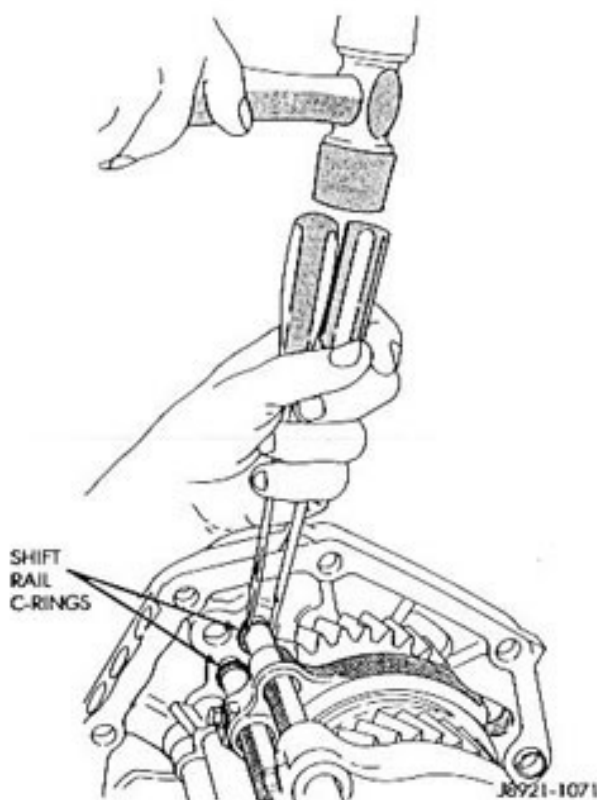

Fig. 42 Removing Shift Rail C-Rings
- (2) Remove the 1-2 and 3-4 shift rail C-rings with two screwdrivers of equal size and length (Fig. 42).